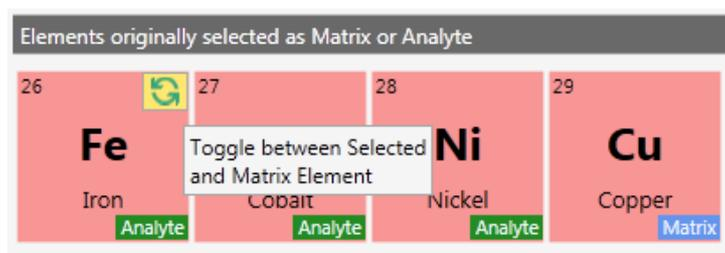

Figure 7-8. Analyte/Matrix Toggle button
1. Hover over the element tile and click the **Toggle** button (see Figure 7-8) to change the element from or to Analyte or Matrix as desired.